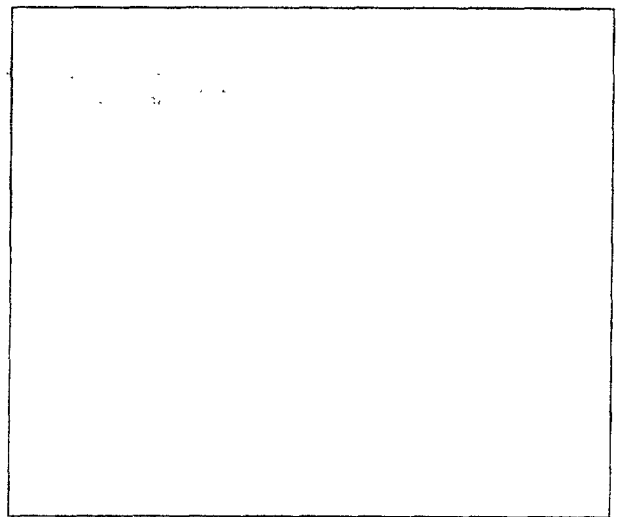

Fig.53
1. Lubricate all points provided with a greasing nipple once a month (Fig.53).